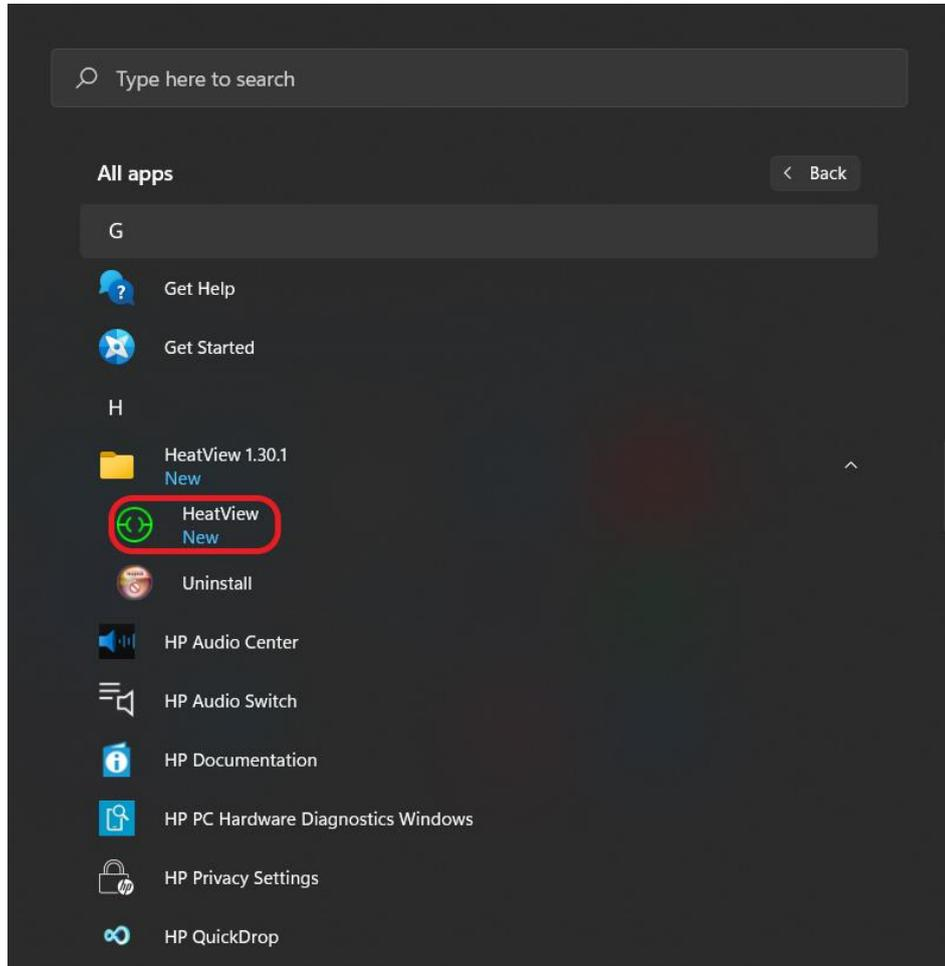

Figure 10: Windows® 11 – ‘Start Menu’ folder location
- Scroll through the alphabetical list of programs until you find a folder called “HeatView X.XX.X” (where X.XX.X is the version number) or whatever name you gave this folder during step 5 of the installation procedure on page 13. Click on this folder – in this example it is titled “HeatView 1.30.1” – to expand it and find the icon for the HEAT VIEW computer application, which is highlighted in Figure 10 on the next page. Clicking this icon will launch the HEAT VIEW computer application.